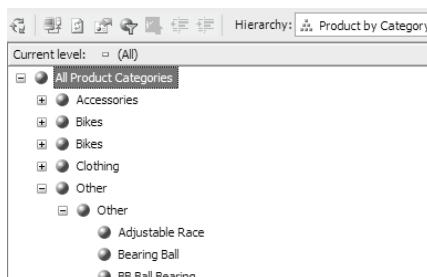

Figure 5.44 When the Unknown member of a dimension is enabled, the members with NULL keys are attributed to the unknown member.
- Process the Product dimension. In the Dimension Browser, reconnect and browse the Product by Category hierarchy (Figure 5.44).